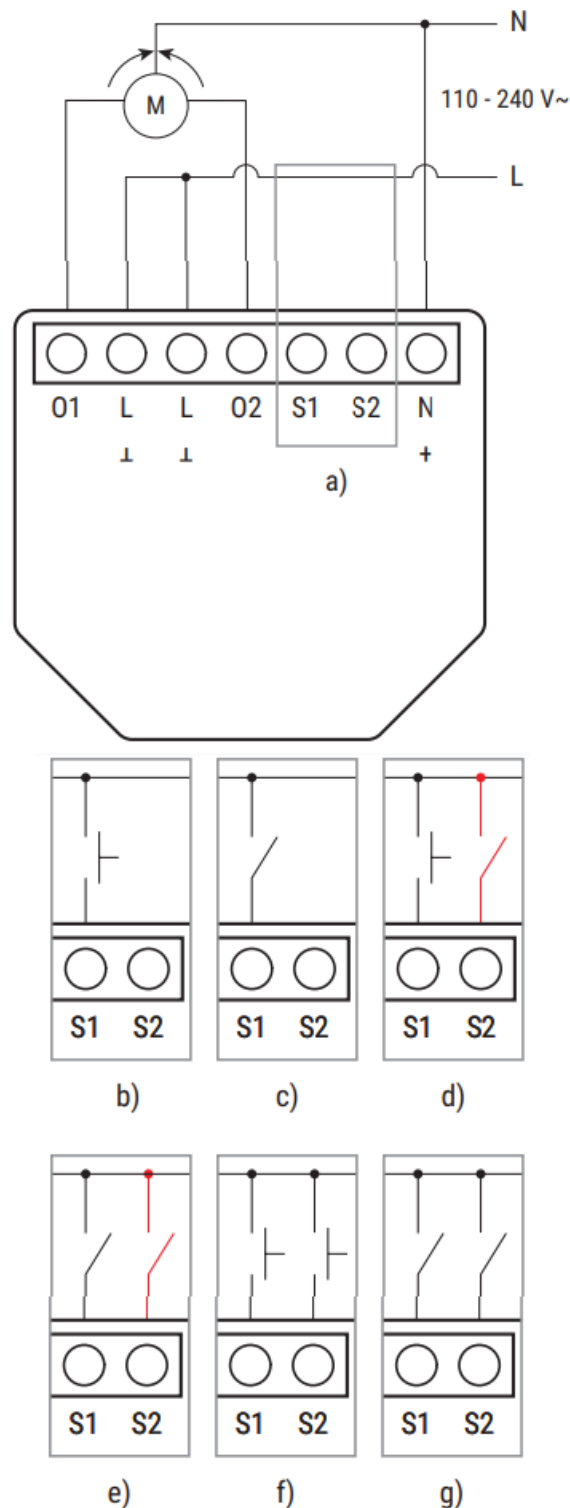

Fig. 3. Cover control profile
To use the Device in Single input mode, connect it as shown on Fig. 3 b) for a Button in- out or Fig. 3 c) for a Switch in/out:
2. Connect the button or the switch to the S1 or the S2 terminal and the Live wire. If the input is configured as a Button in the Device settings, each button press cycles through open, stop, close, stop, etc. If the input is configured as a Switch, each switch toggle cycles through open, stop, close, stop, etc. In Single input mode Shelly 2PM Gen3 has Safety switch functionality. To use it, connect the Device as shown on Fig. 3 d) for a button input or Fig. 3 e) for a switch input:
- Stop and immediately reverse the movement until the end position is reached. \ This option requires reverse movement to be configured in the Device settings. To use the Device in Dual input mode, connect it as shown on Fig. 3 f) for a button input or Fig. 3 g) for a switch input: